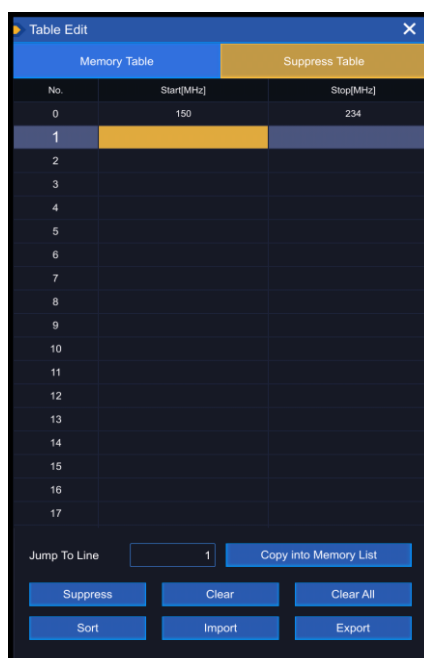

Fig. 4.10 Suppression Table Editing
Step 1. Select [System Menu], click list to enter the list menu, and select [Suppression Table]. As shown in Figure 4.10.